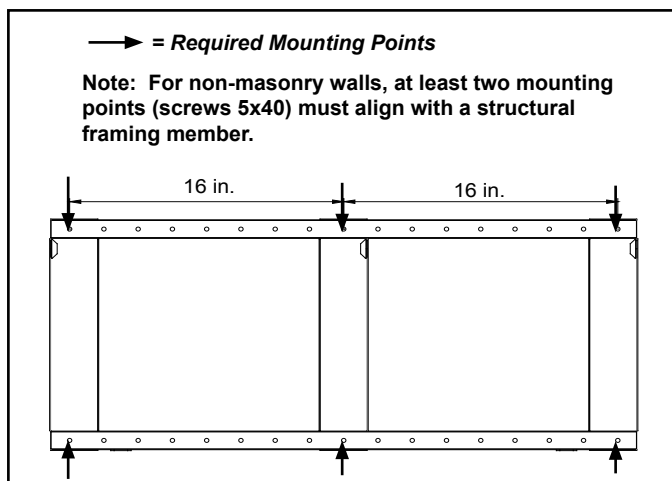

Figure 4.1 SF-WM58 Mounting Bracket
- Mark six locations on the wall that correspond to the six required mounting points in the bracket. See Figure 4.1 & 4.7.